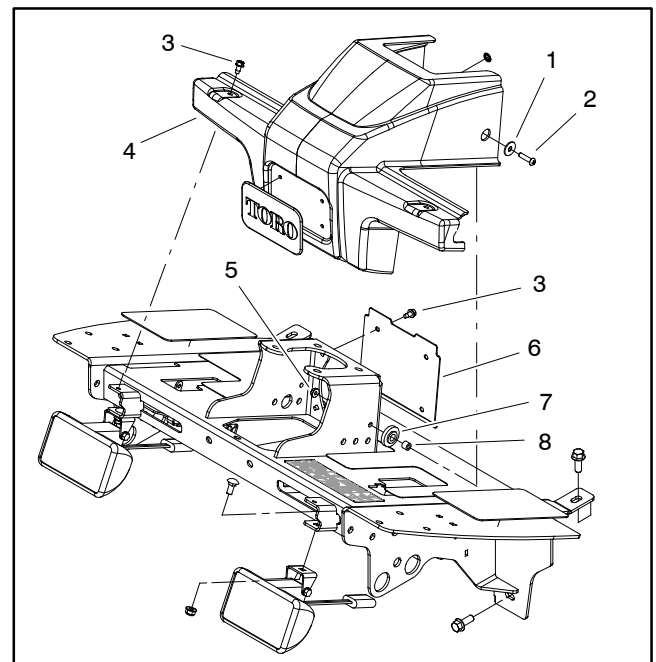
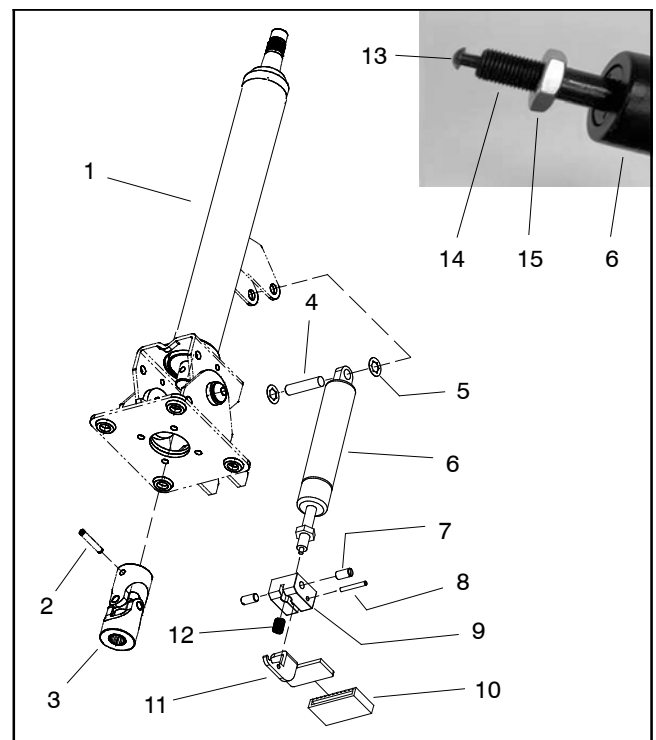

Figure 5
Figure 6
5. Remove platform shroud from machine to allow access to steering column fasteners (Fig. 5).
C. Retrieve two (2) rubber bushings and spacers.
8. Loosen and remove four (4) socket head screws (item 6) that secure steering control valve to steering column.
9. Loosen and remove four (4) socket head screws (item 11) and flange nuts (item 9) that secure steering column to machine.
11. Disassemble steering column assembly as needed using Figure 6 as a guide.
1. Assemble steering column using Figure 6 as a guide. After assembly, make sure that release pin on end of cylinder shaft is positioned against the pedal. Jam nut on cylinder shaft can be used to adjust location of release pin.
3. Slide steering column onto steering control valve. Secure steering column in place with four (4) socket head screws (item 11) and flange nuts (item 9).
4. Secure steering control valve to steering column with four (4) socket head screws (item 6).
6. Place rubber bushings and spacers into holes of platform shroud (Fig. 5). Position platform shroud in place and secure with removed fasteners.